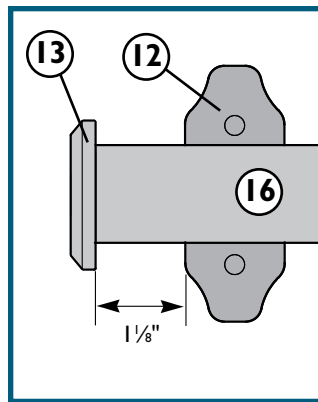

Fig. 1
1. Mount Track Brackets (12) with Pan Head Screws (15) to a secure fixture (bookcase, cabinet, wall, etc.) Space brackets every **32-36** inches along track. Refer to **Track Height Diagram**.
2. Measure the width of your fixture to determine the amount of 6' tracks (16) needed. Use Track Unions (14) to connect tracks together. Space Track Unions (14) as to not interfere with Track Brackets (12). Track should extend  $1\frac{1}{8}$ " beyond outer Track Brackets (12) for Track End Caps (13) to fit properly. **Fig. 1**.
3. Assemble Track (16) to Track Brackets (12) and install Track End Caps (13).